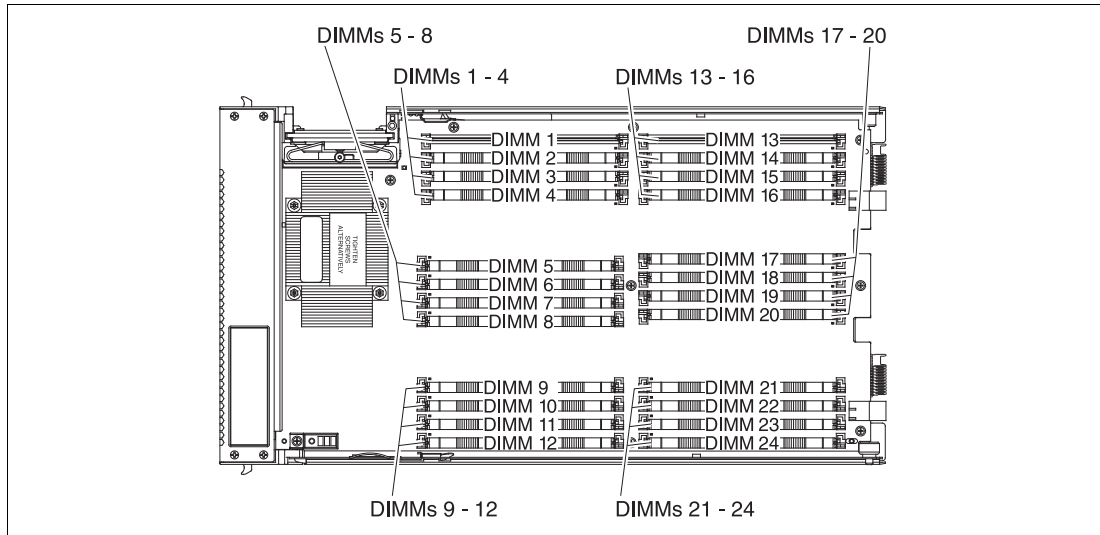
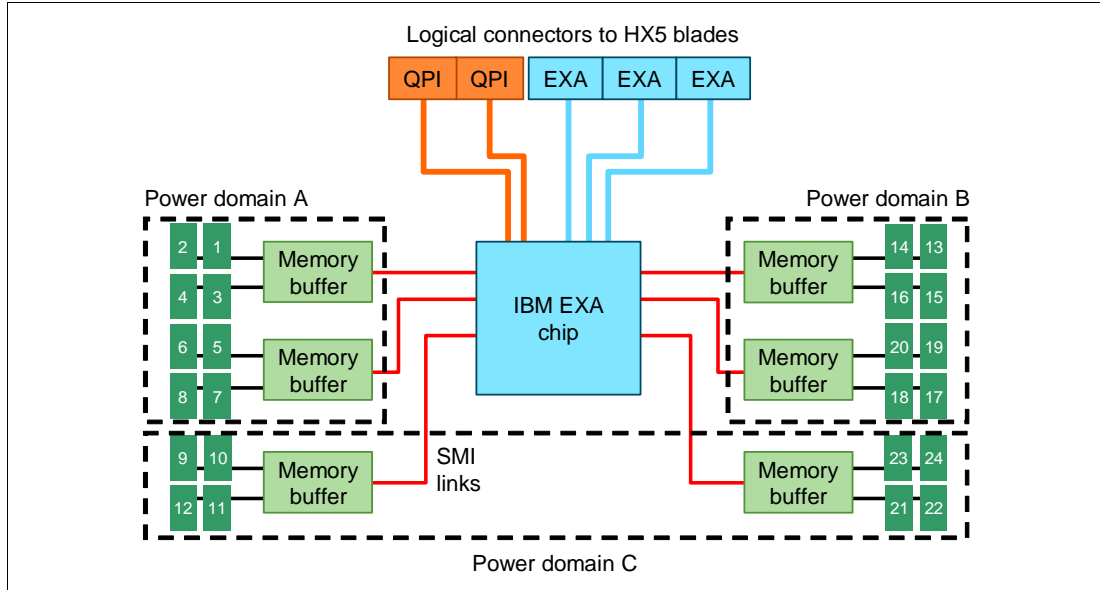

Figure 5-13 DIMM layout on the MAX5 system board
Figure 5-14 Power domains in the MAX5 memory expansion blade
The MAX5 memory expansion blade has 24 memory DIMM sockets, as shown in Figure 5-13. The MAX5, which must be connected to an HX5 system (only the one-node HX5 supports the MAX5), has one memory controller and six SMI-connected memory buffers.
- ▶ The data widths for the following quads must match. For example, DIMMs in each quad must be all 4Rx8 or all 2Rx8. See Figure 5-13 on page 204 for the physical location of these MAX5 DIMMs. Also see Figure 5-14 on page 207 for a block diagram of power domains for these DIMMs:
The DIMM sockets in the MAX5 are arranged in three power domains (A, B, and C), as shown in Figure 5-14. Each power domain includes two memory controllers and eight DIMM sockets.